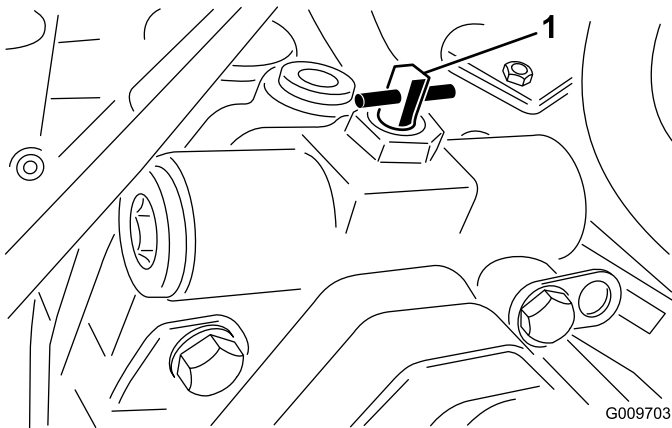

Figure 37
2. Rotate the bypass valve 90° (1/4 turn) in either direction to open and allow oil to bypass internally (Figure 37). Because fluid is bypassed, the machine can be slowly moved without damaging the transmission. Note the position of the valve when opening or closing.